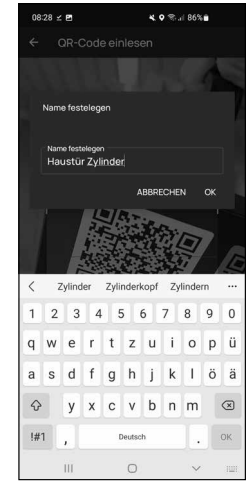

Fig. 5
- 7 In the following window, you will be prompted to assign a name for the cylinder. Where several cylinders and secuENTRY components are used, it is recommended to name the cylinder in such a way that you can directly identify what it is and where the cylinder is located or attached. In the example in these instructions, the cylinder is titled "Front door cylinder". Confirm the name with "OK" (Fig. 5).